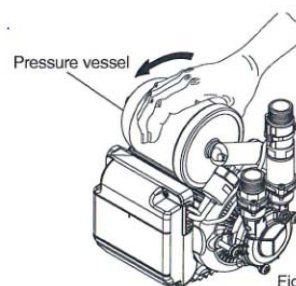

Fig 1.1b Vessel hand tight only
1.2.9 Ensure the pressure vessel that is factory fitted to the pump assembly is still tight after transit, it should be hand tight only, DO NOT over tighten the pressure vessel, this will lead to damage to the vessel/fitting and subsequent leakage (see Fig 1.1b).